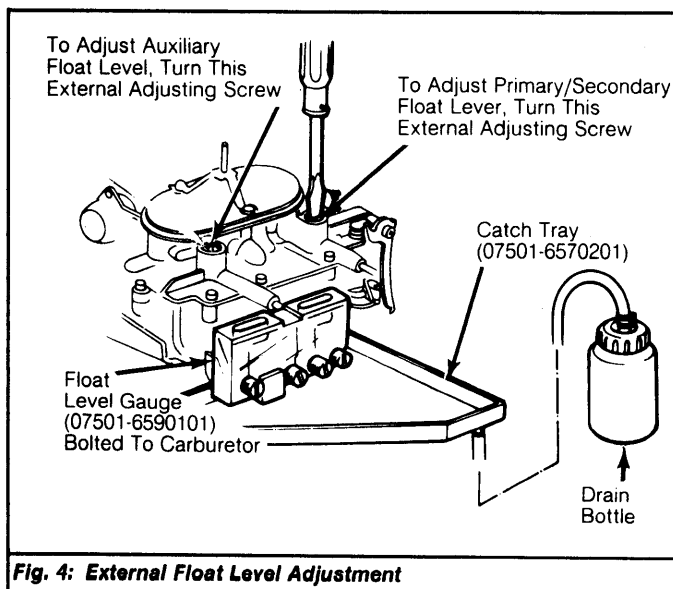

Fig. 4: External Float Level Adjustment
- 3) Allow time for fuel level to stabilize and check again. See Fig. 4. When correct float level is achieved, paint adjusting screws to keep adjustment from changing.